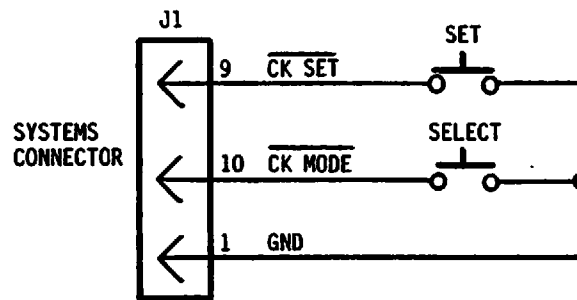

FIGURE 3-3. CLOCK SET FIXTURE
1. Build a Clock Set Fixture as shown in Figure 3-3 and connect it to the systems connector as indicated.